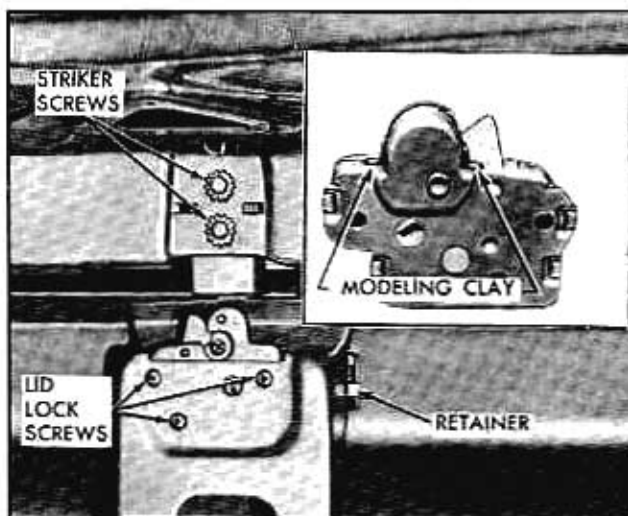

Fig. 4-9 Lid Lock and Striker
2. Remove lock cylinder retainer (Fig. 4-9) and remove lock cylinder assembly.
The rear compartment lid lock is attached to the rear end panel lock support by screws (Fig. 4-9).
The rear compartment lid lock striker is attached to the rear compartment lid inner panel by screw (Fig. 4-9).
1. Insert a small quantity of modeling clay on frame of lock at both sides of the lock bolt as shown in inset of Fig. 4-9. Close lid with moderate force.